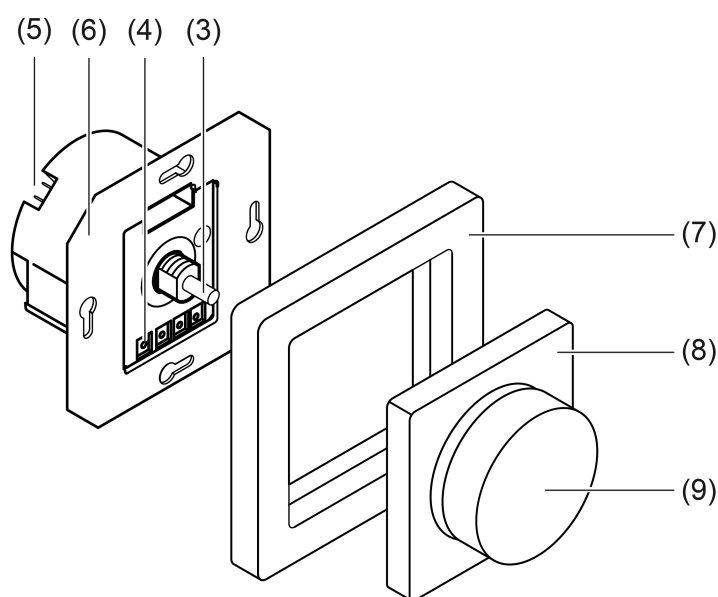

Figure 2: Mounting of the rotary sensor with decorative cover
- Dismantle central plate(7) and control button (8) if the device has already been completely mounted (figure 2).
- Activating Programming mode: press the programming button (3).